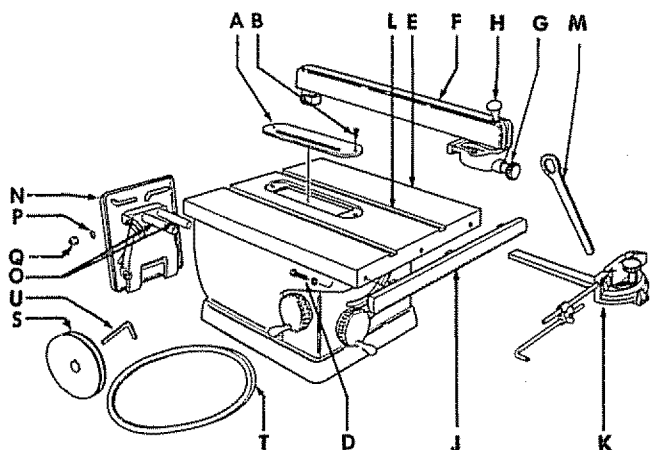
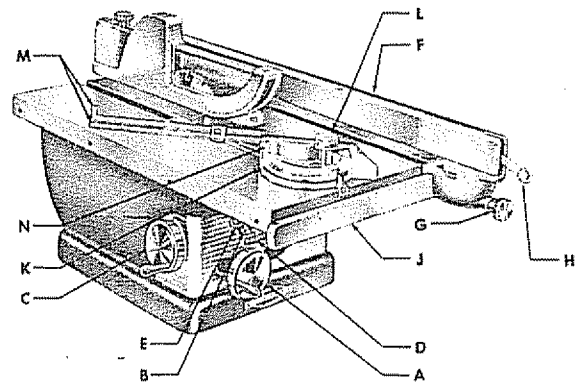

Figure 1
Figure 2
Your saw is shipped with the following loose parts wrapped separately and packed in same crate with the saw (see figure 1): Rip fence rack (J), three screws and lock washers (D), rip fence (F), miter gage (K), motor mount (N), motor pulley (S), V-belt (T), arbor nut wrench (M), and Allen wrench (U). Thoroughly clean the saw and these loose parts with a dry cloth. Remove the rust-preventive coating on the saw table by wiping it off with a cloth soaked in kerosene.
CHECK ARBOR NUT — Remove two screws (B, fig. 1) and lift out the insert (A, fig. 1). Check tightness of saw arbor nut (part 6362, fig. 5), using wrench (M, fig. 1). Replace insert and screws.
ALIGN SAW BLADE WITH TABLE GROOVES — Using elevation hand wheel (A, fig. 2), set saw blade for deepest cut. Make pencil mark on tooth that is just above table top at front of blade. Measure distance from this tooth point to right-hand table groove (L, fig. 1). Rotate blade by hand to place this same tooth just above table top at rear — then again measure distance from tooth point to right-hand groove. The two measurements must be exactly equal. If not, loosen the three screws (part S-860, fig. 4) in each trunnion which secure the table trunnion (part 13, fig. 4) to the table. Shift the two trunnions until the two measurements are equal, then retighten the screws. Again check measurement.
INSTALL RIP FENCE — Secure the rack (J, fig. 1) to the front skirt of the saw table, using the three screws and lock washers (D, fig. 1). Be sure to position rack with gear teeth facing downward — and with top edge of rack parallel with the top of table. Pull the rip fence knob (G, fig. 1) out to permit the guide of the rip fence (F, fig. 1) to slide over rack (J, fig. 1) — then place the rip fence on the saw table as shown in figure 2. A slight pressure must be exerted on the rip fence to cause it to seat properly on the rack. This is necessary because there are two bar alignment springs which act on the inner lip of the rack to hold the fence in continuous alignment. Slide fence along rack, noting clearance between fence and table top. If any part of the fence (other than the sliding pad at the rear) drags on the table top, or if the clearance between fence and table varies appreciably as fence is moved, rack (J, fig. 1) must then be readjusted. This can be done by again loosening screws (D, fig. 1) to reposition the rack.
ADJUSTING RIP FENCE PARALLEL TO SAW BLADE — Place the rip fence next to the right-hand table groove (L, fig. 1) and clamp it in place by pushing down on the cam clamp lever (H, fig. 1). Fence should be perfectly parallel to the groove. If not, loosen the four screws (parts S-1264 and S-1265, fig. 4) which secure the guide to the fence. Align fence with groove — then retighten screws.
MOUNTING THE MOTOR — Mount the motor (see Motor Specifications) to the motor mount assembly (N, fig. 1) — then mount the motor support assembly to the saw by sliding the two pins (O, fig. 1) into the mounting holes at the rear of the cradle. Place pulley (S, fig. 1) on the motor shaft, line it up with the pulley on the saw arbor, then tighten the pulley set screws. Install V-belt (T, fig. 1) over pulleys and adjust the belt tension by
PLACEMENT OF MITER GAGE — The miter gage assembly (K, fig. 1) can be used in either one of the two table grooves.
The following controls should be tested until the operator is thoroughly familiar with their uses. See figure 2.
ADJUSTING TILT GAGE — Using an accurate square, set saw blade at right angles to table top. Then adjust the pointer on the tilt gage (D, fig. 2) to "0".
ADJUSTING MITER GAGE SCALE — Using an accurate square, block the miter gage at the square position. Make a trial cut on a fairly wide board, then check this cut with the square. If cut is accurate, set the pointer on the miter gage scale (K, fig. 2) to "90".
ADJUSTING CAM CLAMP LEVER If clamping action of lever (H, fig. 2) is too tight or too loose, it can be adjusted by increasing or decreasing the effective length of the rip fence clamp rod (part 6409, fig. 4). This is done by readjusting the clamp rod nut (part 6407, fig. 4) on the end of the clamp rod in back of the fence. When properly adjusted, the clamping lever should lock in a horizontal position or slightly lower.
ADJUSTING DEPTH DIAL — The depth dial (B, fig. 2) should read "0" when saw blade is just flush with the surface of the table. This adjustment can be made by sliding the lift dial tape (part 34, fig. 5) on the dial gear (part 33, fig. 5). Adjustment will be necessary after the blade has been sharpened and the original diameter is reduced — or when a blade of a smaller diameter than 10 inches is used.